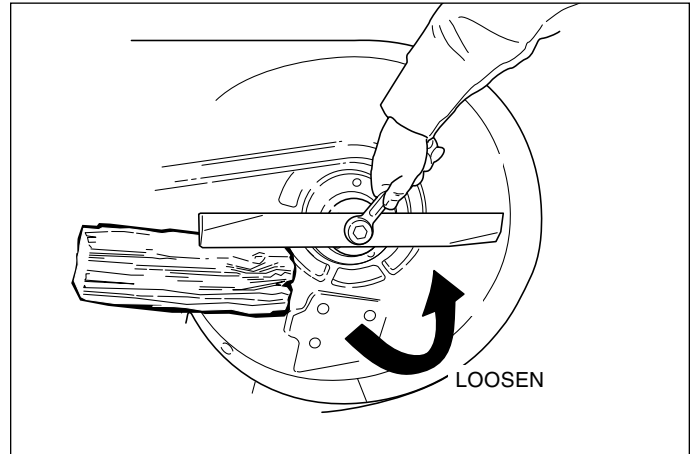

Figure 27. Blade Removal
2. See Figure 27. To remove blade for sharpening, use a block of wood to prevent blade rotation while loosening the capscrew.